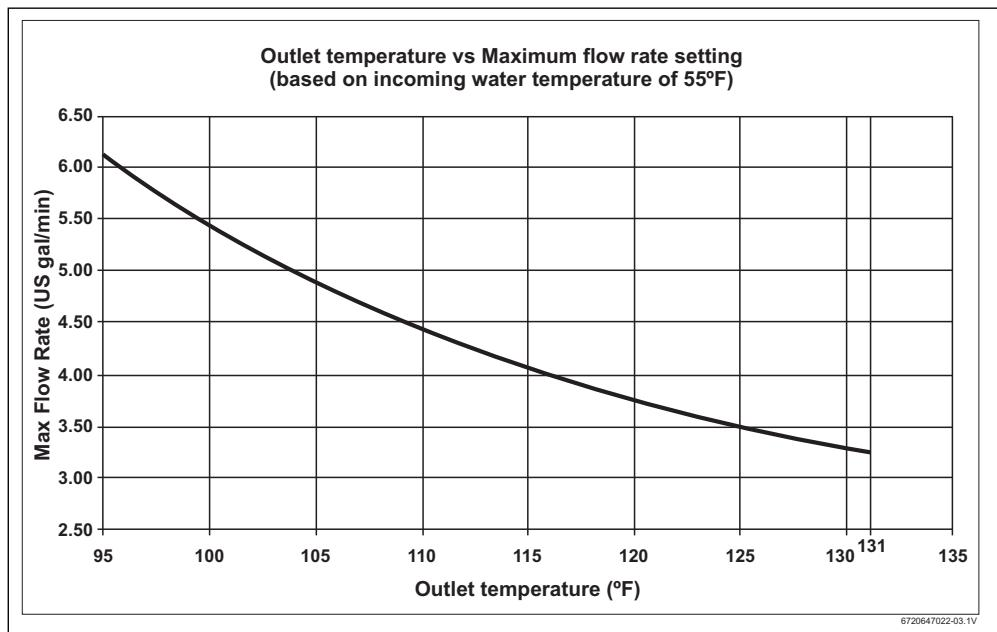

Fig. 8
- ▶ If the water temperature is not hot enough, adjust the outlet shut-off valve until the temperature is acceptable. Use Fig. 8 below for reference if you know your maximum flow.
These figures are based on an inlet water temperature of 55 °F and a supply voltage of 240 volts. If the inlet water temperature is lower than 55 °F, or if the supply voltage is less than 240 volts, then the flow rate for the shown temperatures will be reduced shown in Fig. 8. If a higher outlet water temperature is desired, then reduce the flow rate and/or supply the unit with 240 volts.
The inlet water temperature is too cold	Verify the heater is sized appropriately for it's geographic location. Turn temperature knob located on the bottom of the water all the way clockwise for maximum temperature setting. Ensure flow rates are within the heater's specifications. Refer to Fig. 8 on page 13 of the manual. Use of an isolation valve on the hot water outlet to control flow rate is recommended.
Temperature dial is turned too low	Turn the temperature dial located on the bottom of the water heater clockwise for hotter temperatures. Refer to Fig. 8 for outlet temperature vs. flow rate variance.
Water flow is too high	Adjust water flow to stay within the water heater's specifications. See Fig. 8 of this manual.
Outlet shut-off valves are set too low	<p>Adjust installer supplied outlet valve as described below:</p> <ul style="list-style-type: none"> • Completely open both installer supplied inlet and outlet shut-off valves at the heater. (if none installed, install before proceeding). • Completely open hot water on the highest flowing hot water fixture served by the heater (i.e. bathtub). • Slowly close the outlet shut-off valve, slowing the water flow rate until the temperature at the hot water faucet corresponds to the values given on Fig. 8 of the manual, or desired water temperature is reached.
Changing flow rate. Water supply connected to the outlet of the unit.	Major changes in flow rate can adversely affect the output water temperature of the heater. Increases from one major fixture running to multiple fixtures running at one time can cause the temperature to fluctuate. Stay within the heater's specifications. See Fig. 8.